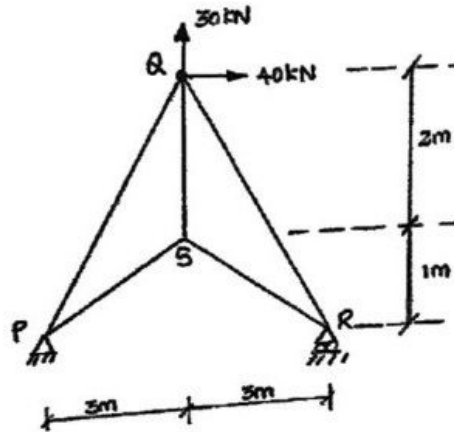

Fig. Q15 (a)
15. (a) Find the forces in all the members of pin jointed frame PQRS shown in Fig Q15 (a), using stiffness method. Assume Area = 1800 mm2 and Young's modulus = 200 GPa for all the members.